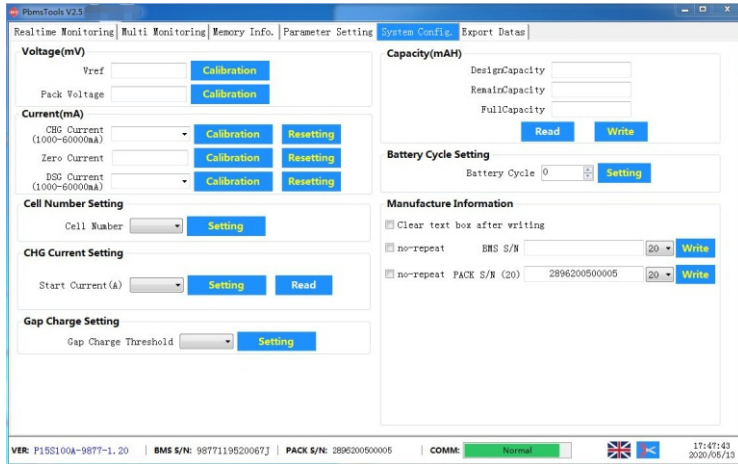

Figure 18: System Configuration
(6) In the System Configuration (As shown in figure 18), this page is for battery calibration, parameters setting. Administrator permissions are required for the battery calibration and the setting of battery system parameters .